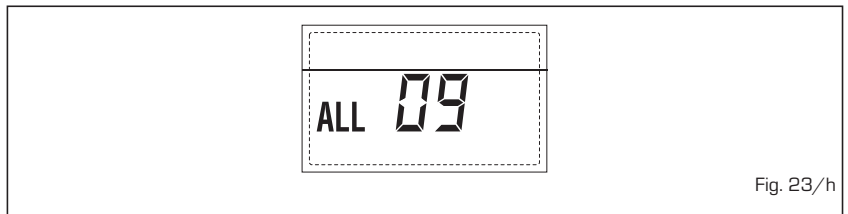

Fig. 23/h
- **AUXILIARY SENSOR ANOMALY ALARM 10 (fig. 23/i)**